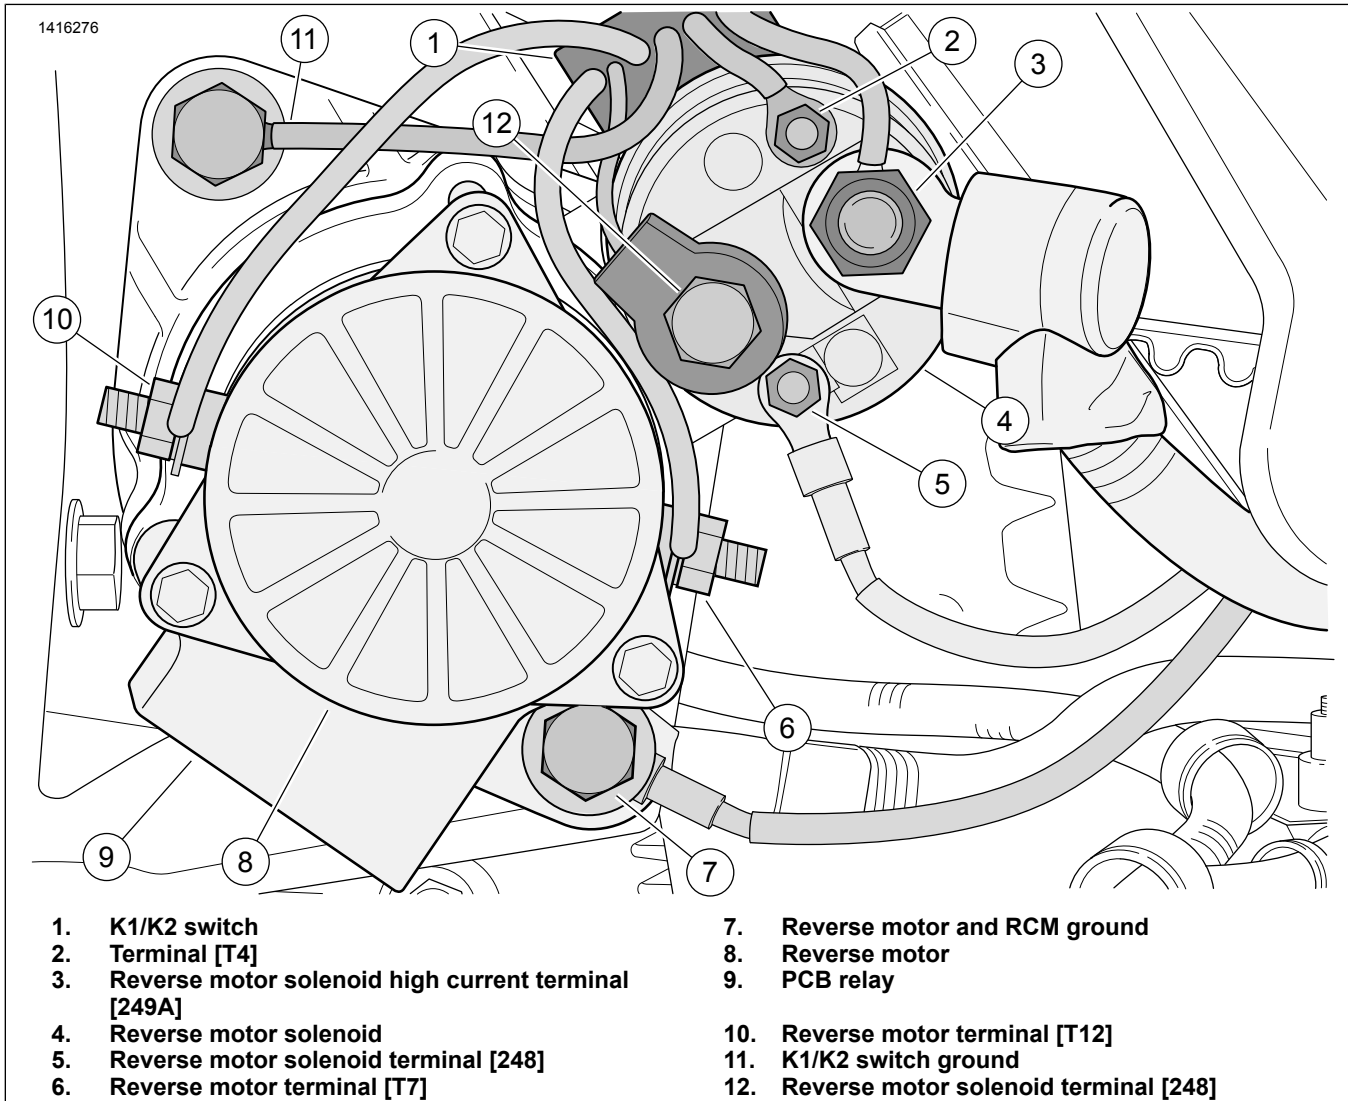

Figure 4. Reverse Motor With K1/K2 Switch Assembly
4. **With electrical kit:** See Figure 4. When reverse is enabled, the ECM sends 5 volts to the RCM through the (TN) wire. The RCM activates the reverse control solenoid. The control solenoid activates the reverse motor solenoid. When the reverse motor solenoid is activated, the 2-way switch and PCB relay are signaled. The 2-way switch supplies power to the reverse motor causing the reverse motor to engage and the vehicle to back up. When the reverse control solenoid deactivates, the PCB relay signals the 2-way switch to supply power to the other post of the reverse motor. This momentary voltage releases the tension between the reverse motor gear and drive gear allowing the solenoid to disengage more easily. Reverse is disabled for any of the following conditions: